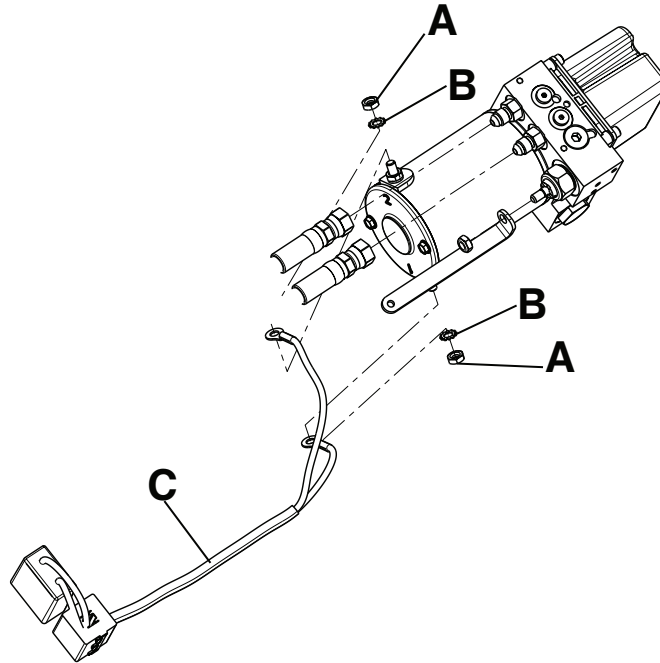

Figure 35: Motor assembly
- Using a 7/16" combination wrench, remove the two nuts (A) and star washers (B) that secure the motor cable (C) to the motor assembly (Figure 35 on page 67).